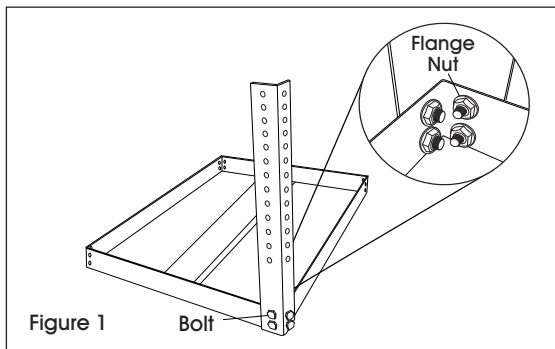

Figure 1
2. Attach legs to outside of top panel using four bolts and four flange nuts on each leg. (See Figure 1)